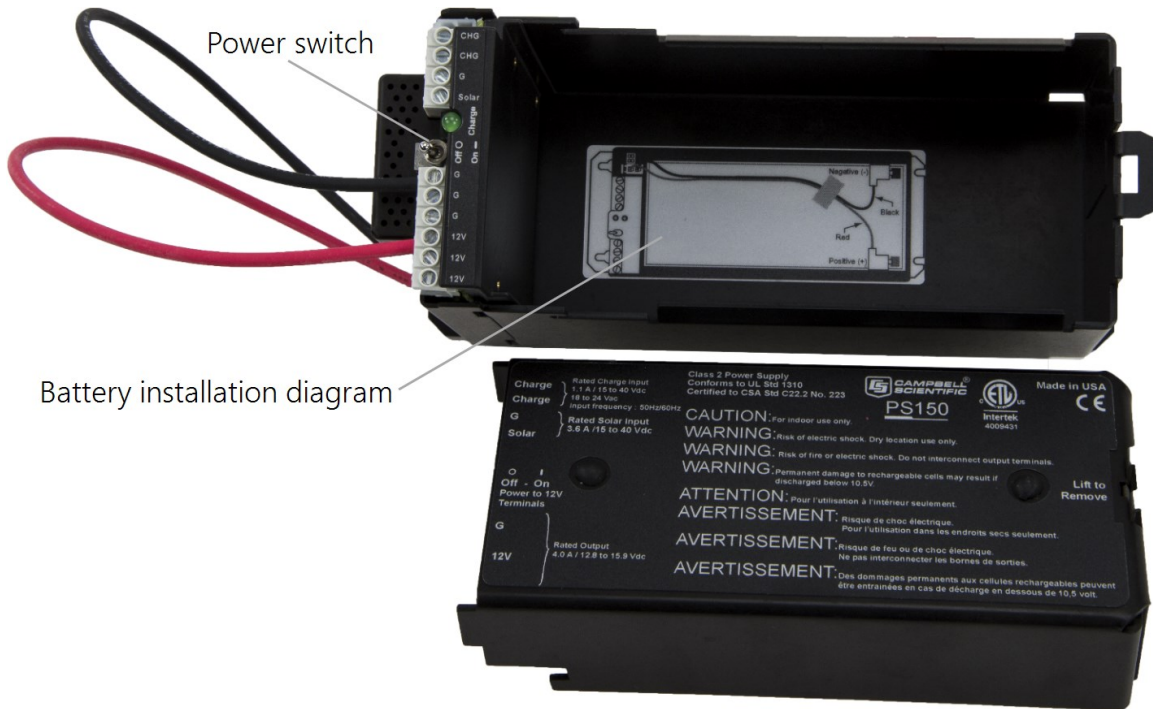

FIGURE 6-42. PS150 with lid open
1. Move the PS150 power switch to the **OFF** position (FIGURE 6-42 (p. 55)).
2. Remove the cover from the PS150 by sliding the latch up at one end of the cover and sliding the cover down and out (FIGURE 6-42 (p. 55)).
3. Install the battery according to the diagram (FIGURE 6-42 (p. 55)).